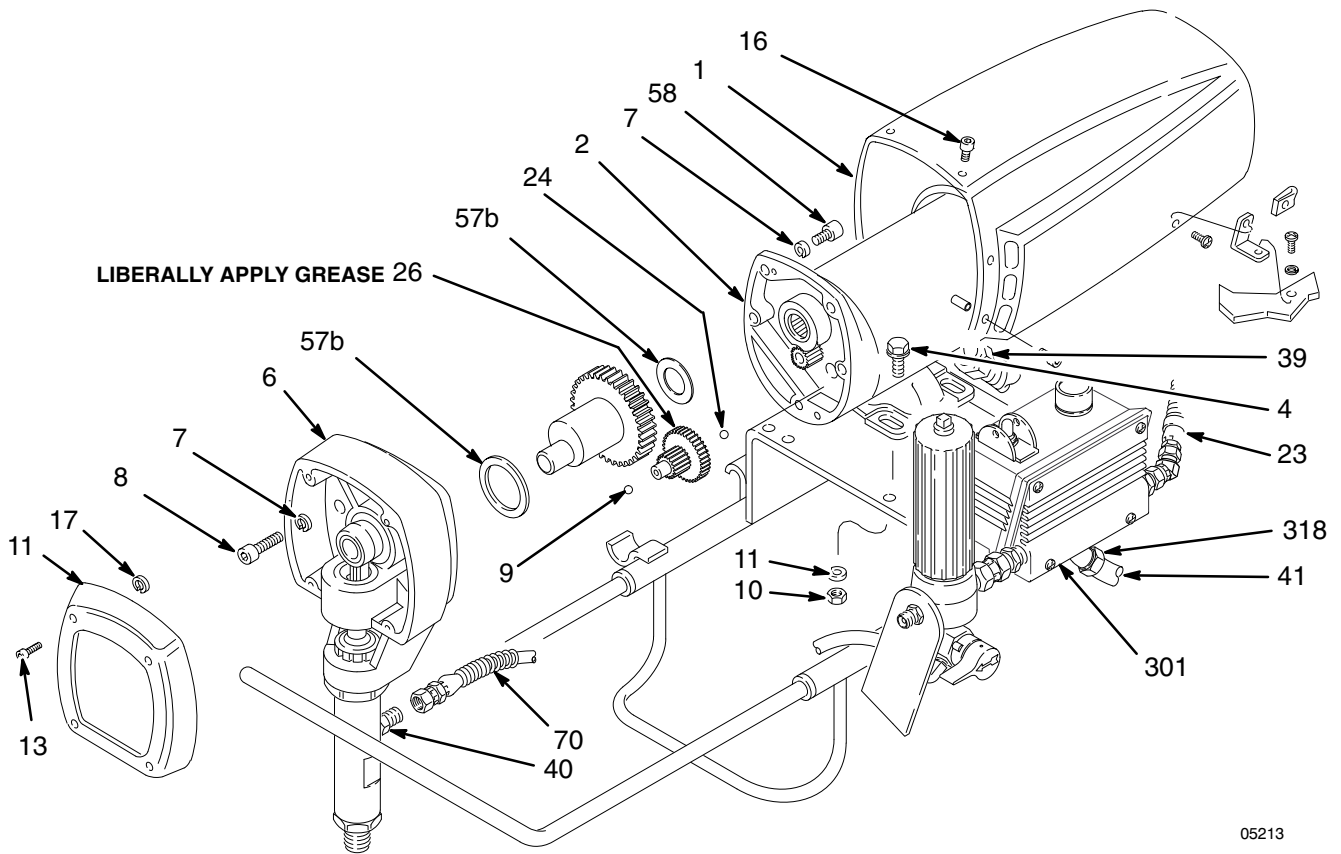

Fig. 22
14. While supporting the motor (2) to keep the sprayer from tipping, remove the four motor mounting screws (4). Lift off the motor.
15. Install the new motor (2).
16. Liberally apply bearing grease to the gear cluster (26). The gear area should have approximately 4 total ounces of grease. Grease is supplied with the drive housing replacement kit. Be sure the thrust balls (24) are in place.
17. Place the bronze-colored washer (57a) and then the silver-colored washer (57b) on the shaft protruding from the big gear in the drive housing (6).
18. Align the gears and push the drive housing (6) straight onto the front of the motor (2) and locating pins.
19. Continue reassembling the sprayer. Use a turning motion on the conduit (41) when feeding wires through it. Install the conduit seal (31) around the wires in the conduit elbow (318) at the pressure control to keep contaminants from entering the motor conduit. See the Detail in Fig. 22.